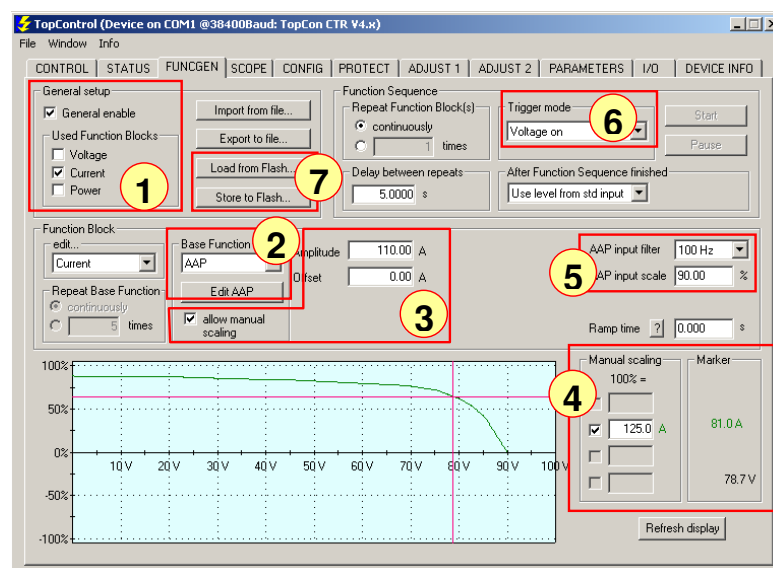

Fig. 19 Overview of the settings for the AAP mode in the function engine
- The function engine must be operated in the AAP mode (for settings see Fig. 19).
- (1) Set the required function block for SAS: $I=f(V)$ characteristic → "Used Function Block" must be set to Current
- (2) Select the Base Function for SAS: AAP
- The curve can be manually scaled (3)
- The display can be manually scaled (4)
- If necessary, set Input Filter and Input Scale (scaling of the input value "voltage") (5)
- Set trigger and prepare activation of the mode (6)
- Alternatively an existing characteristic in the power supply can be opened using [Load from Flash...] (7).